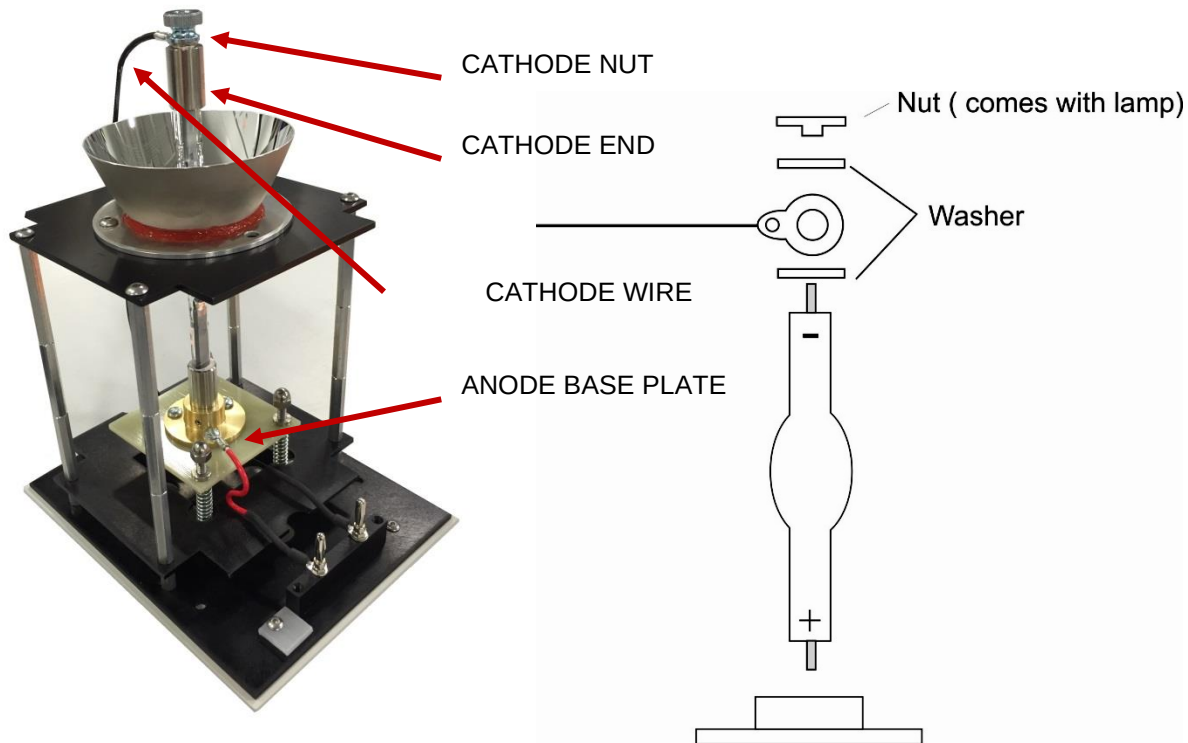

Figure 20. Installed xenon arc lamp into a LH-E lamp stage.
4. Attached the cathode wire (black wire with round washer/lug) to the cathode end of the lamp (Figure 20). Secure the cathode wire lug to the lamp cathode with the included nut (washers not included or needed on all models).